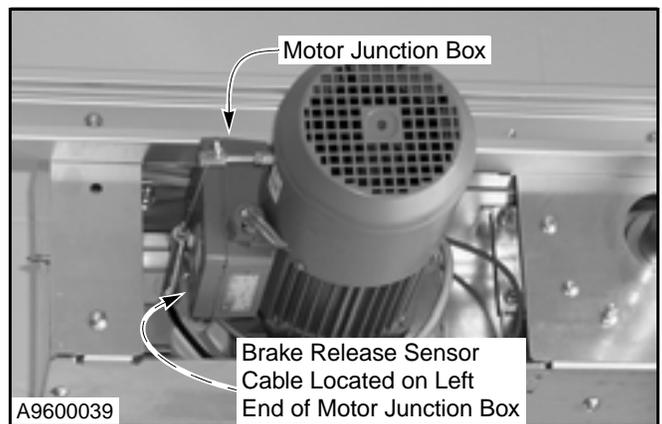

Figure 78
1. Route the brake release sensor cable, leading from the motor junction box, to the control panel. (See Figure 78.)